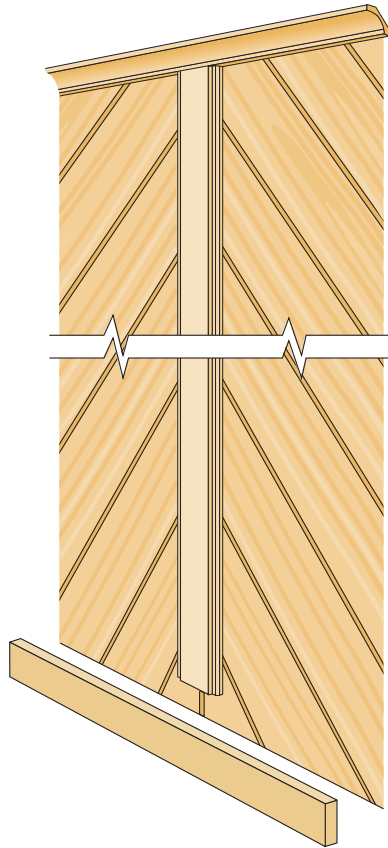

Figure 28-18 Molding
6. After you have installed all the pieces, apply ceiling and baseboard molding. Then apply molding over the vertical joints in the paneling as in **Figure 28-18**. A cove or quarter-round may be used at the corners and a base shoe at the floor if necessary.